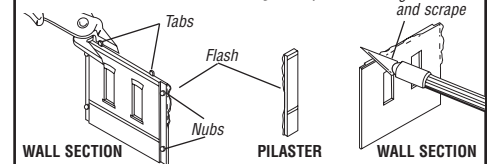

Fig. 5
2. Attach Wall Sections together horizontally with a Wide Pilaster glued in flanges on adjacent Wall Sections. Keep Wall Sections and Pilasters level by using a 1/8" thick straightedge as a guide along top edges (**Fig. 5**). Apply glue along outer edge of flanges to keep glue off brick detail (**Fig. 5 inset**). Fit Pilasters snugly between Wall Sections (**Fig. 6**). Continue joining Wall Sections to create desired length of Wall Panel. Do not glue Pilasters to ends of Wall Panels where corners will be formed. As you create Wall Panels, be sure Pilasters line up on adjacent Wall Panels (**Fig. 13**). Do not glue Wall Panels together until **Wall Assembly**.